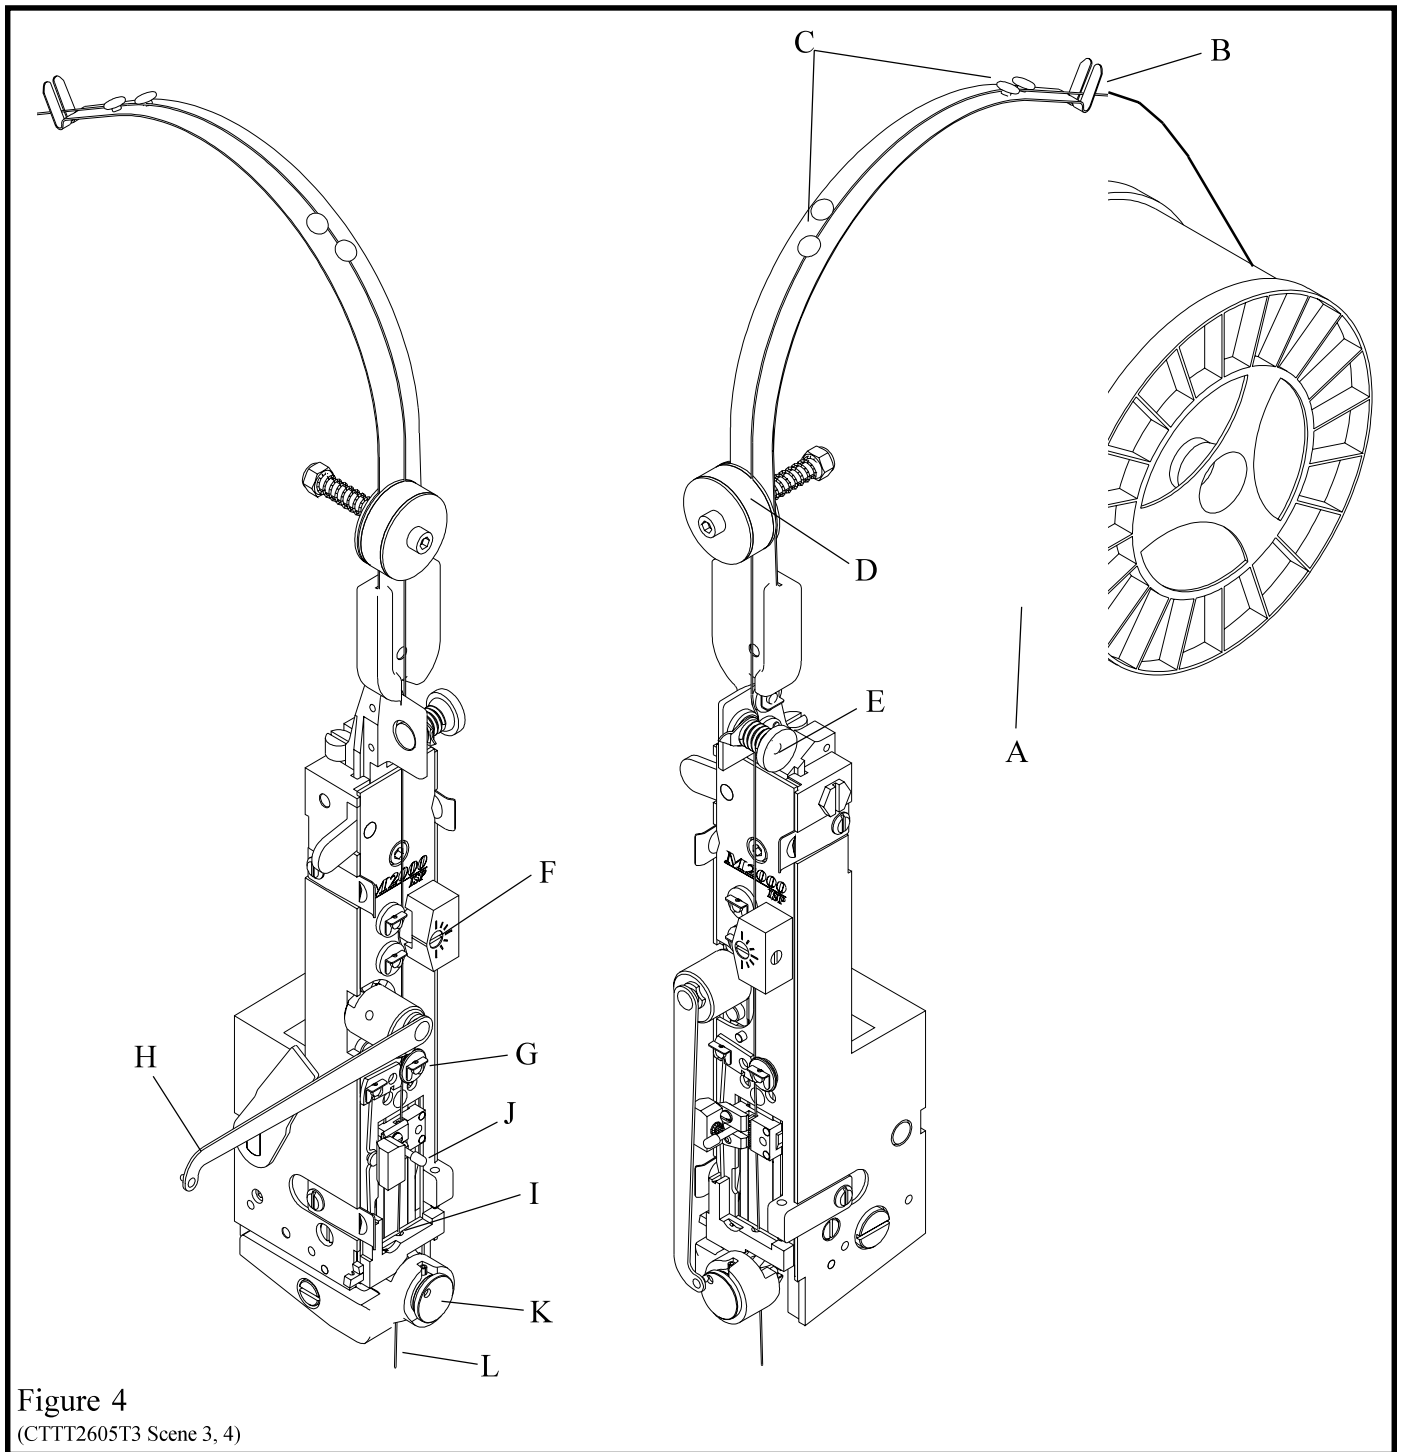

Figure 4
THREADING WIRE AND ADJUSTING WIRE STRAIGHTENERS (See fig. 4)
6. To check adjustment, hold open grip (Index J) and pull about 1 1/2 feet of wire from below face plate. Cycle machine once by hand to cut wire. Cycle machine again by hand to observe wire straightness. The wire (Index L) should point straight down, prior to being cut, as shown in Figure 4 .
7. Adjust the upper wire straightener, beginning at position shown, (Index E, Figure 4) so that the wire points straight down. Adjust the lower wire straightener, beginning at the 3:00 o'clock position, (Index F, Figures 4) so that the wire (Index L, Figure 4) feeds straight down.